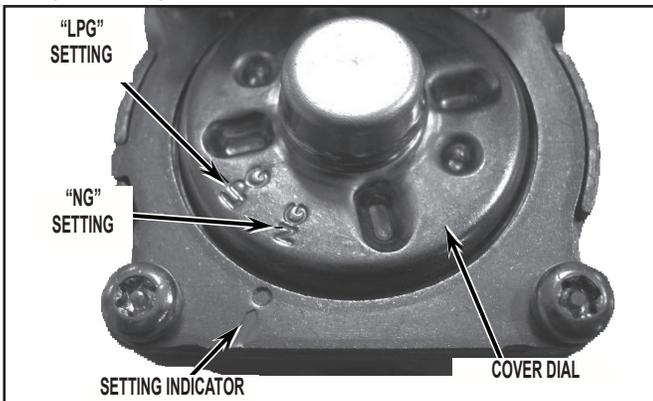

FIGURE 24
28. Observe the cover dial settings indicated as NG (Natural Gas) and LPG (Liquefied Propane gas) along with the gas type setting indicator. See *Figure 24*.